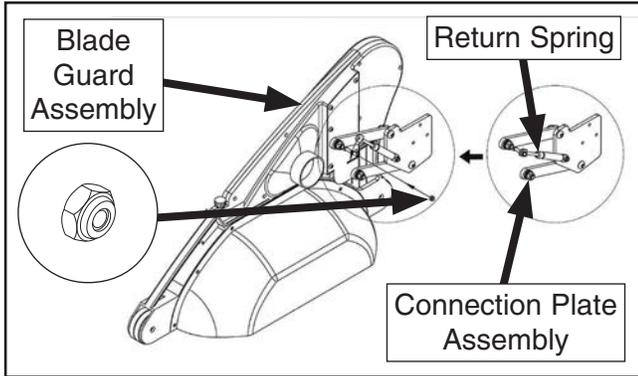

Figure 57. Installing blade guard connection plate assembly onto blade guard assembly.
67. Attach connection plate assembly with return spring to blade guard using (2) M6-1 lock nuts (see **Figure 57**).